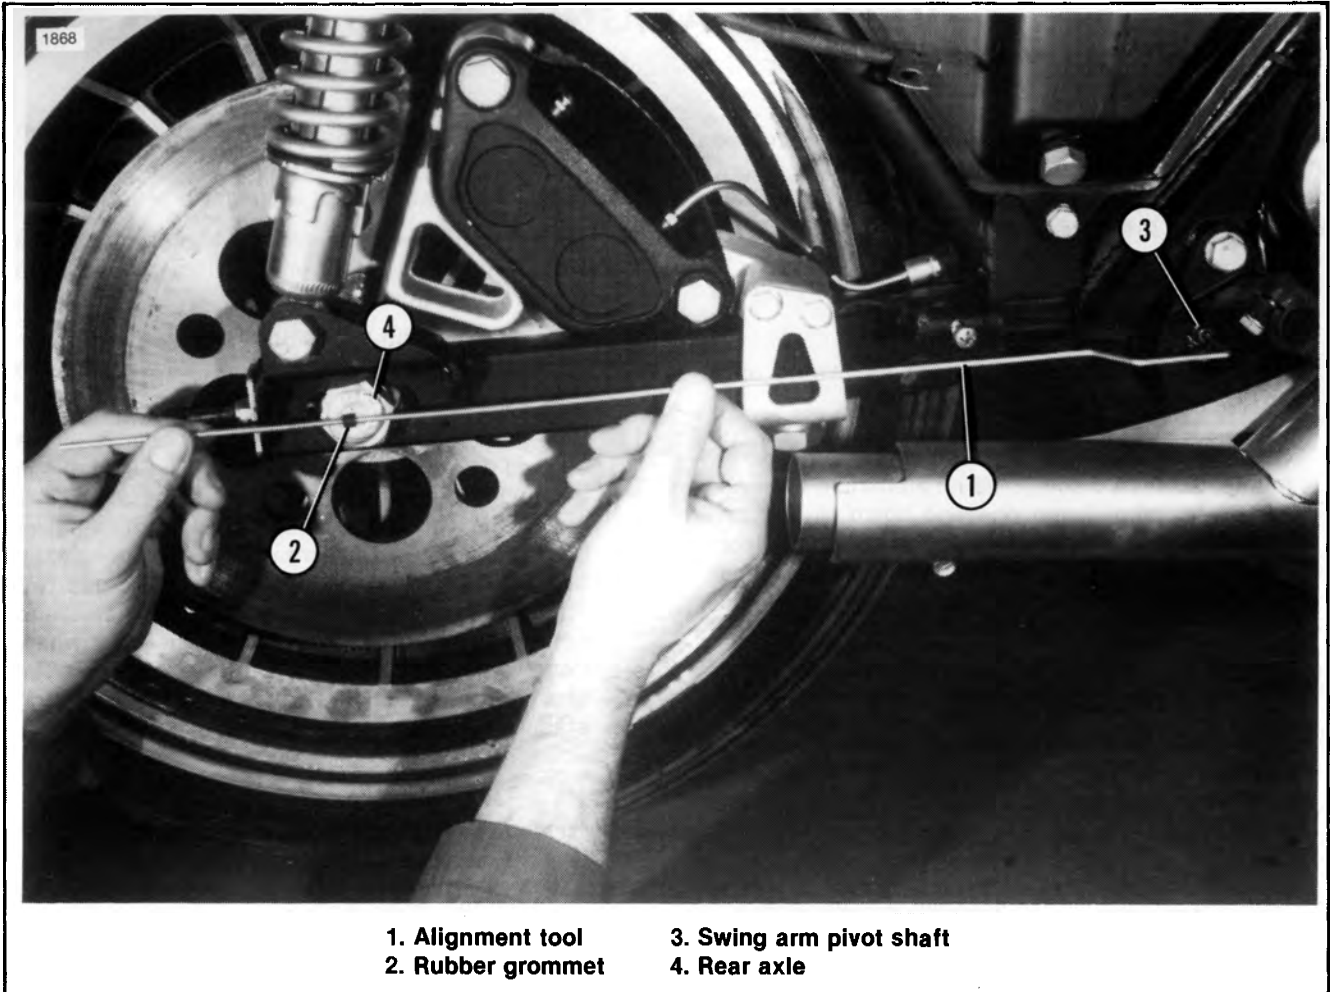

Figure 2-34. Measuring Rear Axle to Pivot Shaft Distance
4. See Figure 2-34. With the blunt end of the alignment tool inserted in the center of the swing arm pivot shaft, slide the rubber grommet along the tool until it is aligned with the center of the rear axle as shown. Repeat for the other side of the motorcycle.